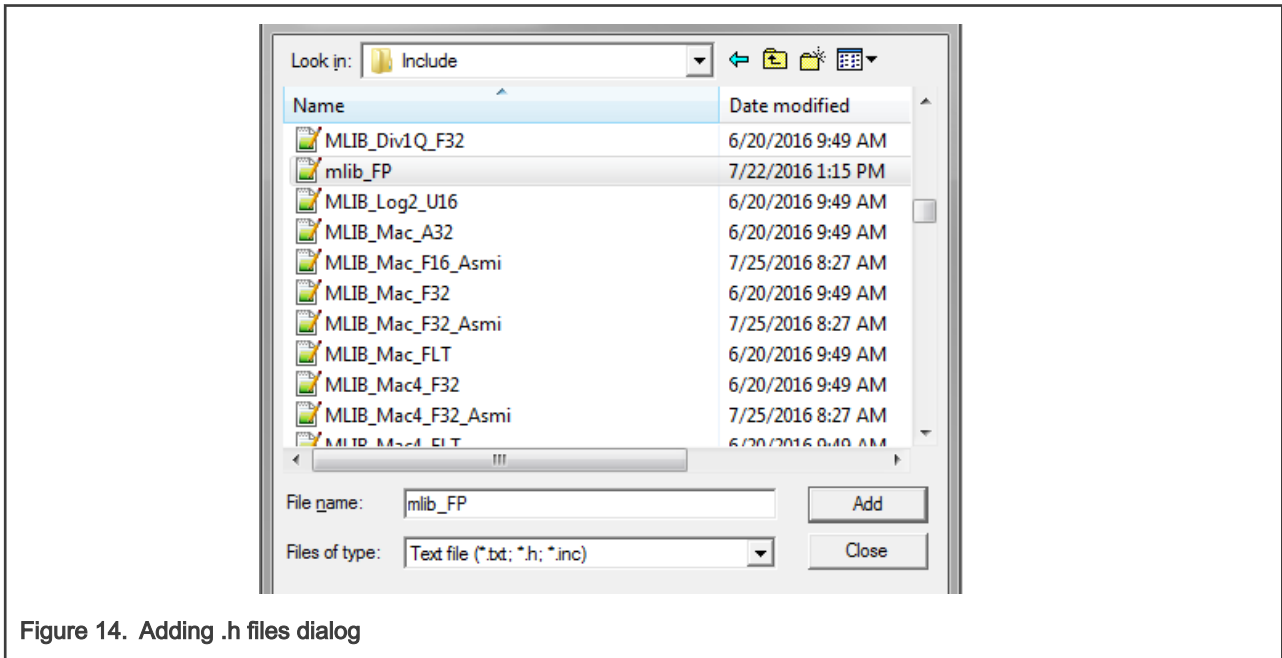

Figure 14. Adding .h files dialog
4. Navigate into the library installation folder C:\NXP\RTCESL\CM33F_RTCESL_4.7_KEIL\MLIB\Include, and select the *mllib_FP.h* file. If the file does not appear, set the Files of type filter to Text file. Click Add. See Figure 14.